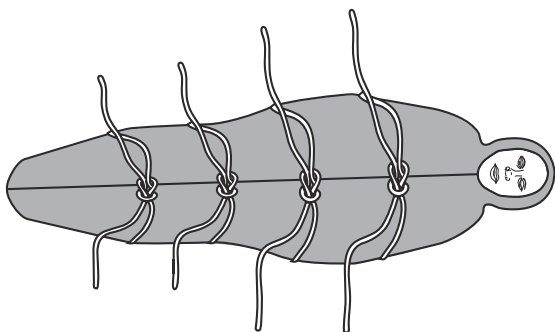

Figure 9-4. Pole Carry Rope Placement.
- One sling rope is placed under the casualty below the armpits and tied with a square knot across the casualty's chest. The second sling rope is tied in the same manner at the casualty's waist. The third sling rope is placed at the casualty's legs below the knee. The fourth sling rope is tied around the ankles. See figure 9-4.